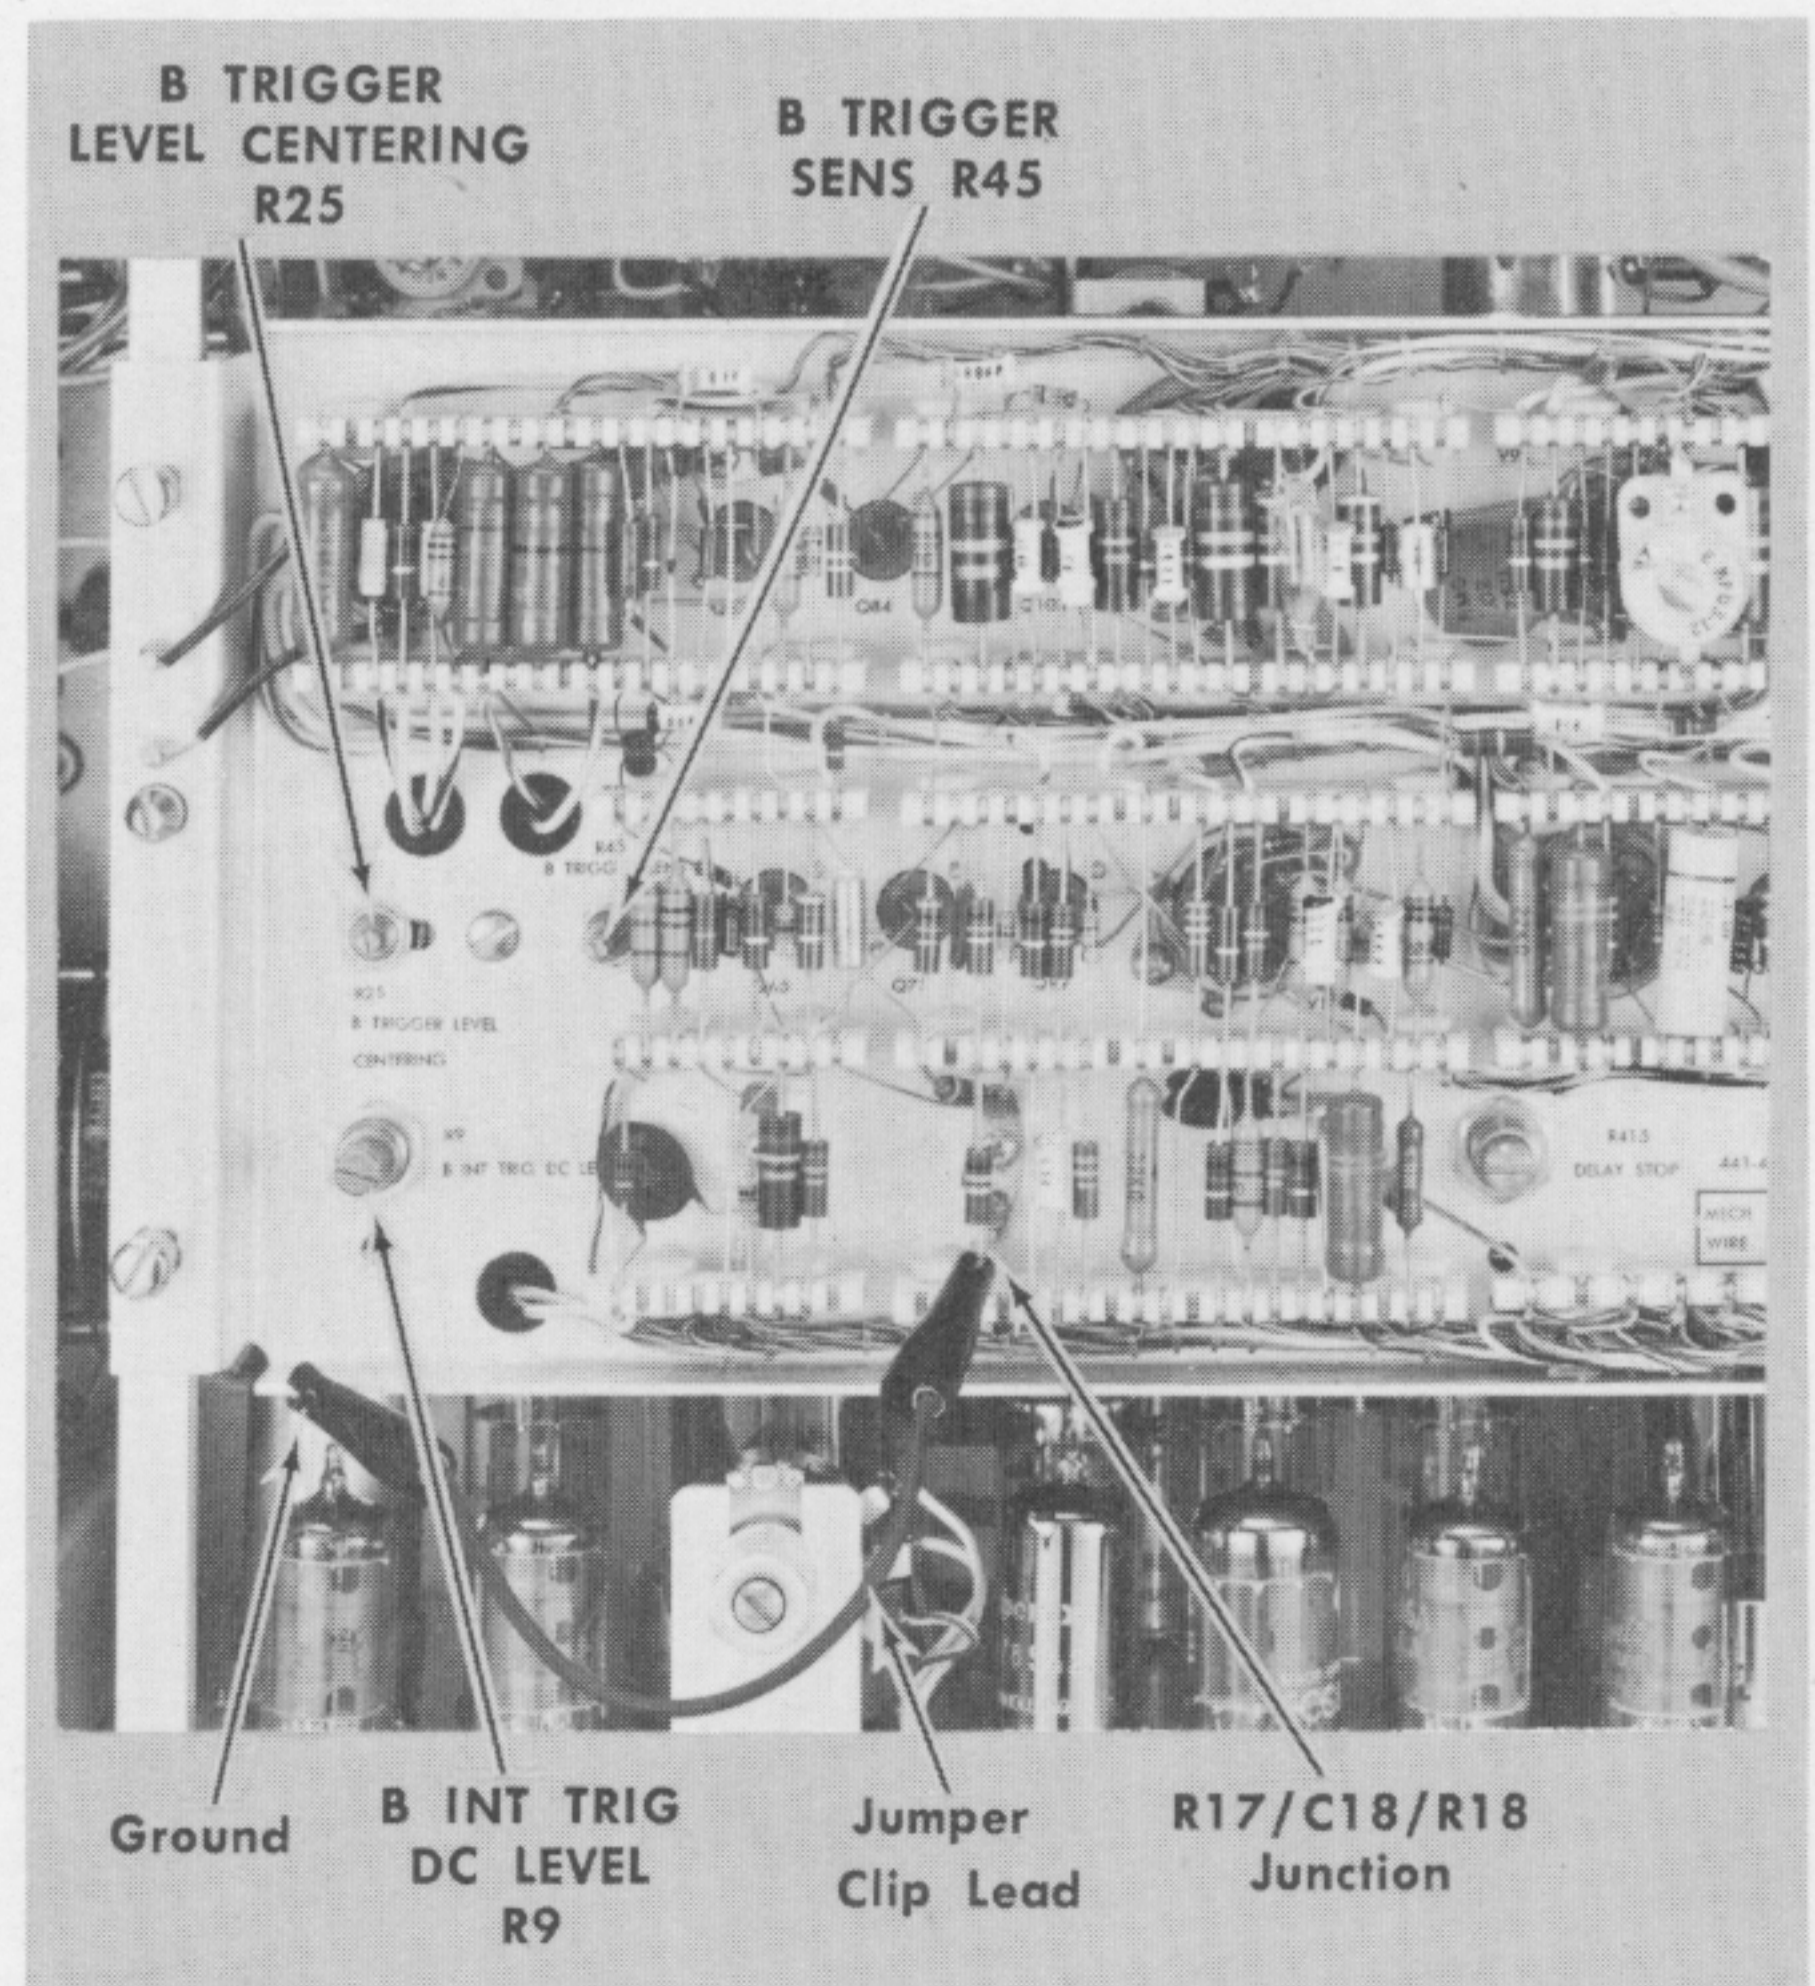

Fig. 5-6. B Trigger clip-lead connections, adjustment and test point locations (right side view).
- e. Locate the junction of R17, C18 and R18 (see Fig. 5-6). Connect a short jumper clip lead between the junction and ground. This jumper disables the 'B' TRIGGERING LEVEL control.
- f. Adjust the B INT TRIG DC LEVEL R9 control (see Fig. 5-6) to obtain a stable display. (With the B SLOPE switch set to +, the sweep trace should start on the positive-going rise of the calibrator waveform.)